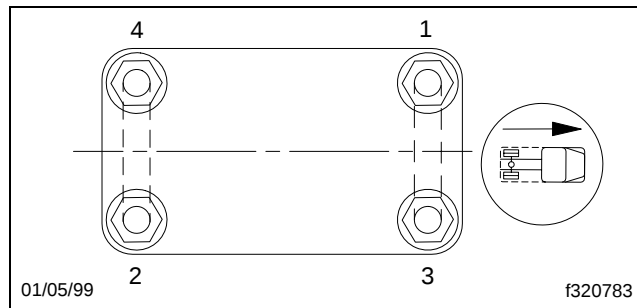

Fig. 4, U-Bolt Nut Tightening Sequence
- 21.6 Lubricate the threads of the new U-bolts to prevent galling, then install the new U-bolt nuts and tighten them 60 lbf-ft (81 N·m) in the sequence shown in **Fig. 4**.
- 22.3 Replace the second U-bolt on the left side, and evenly tighten the U-bolts 60 lbf-ft (81 N·m) in the sequence shown in **Fig. 4**.